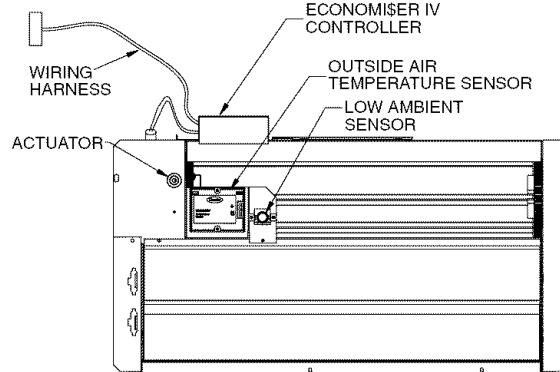
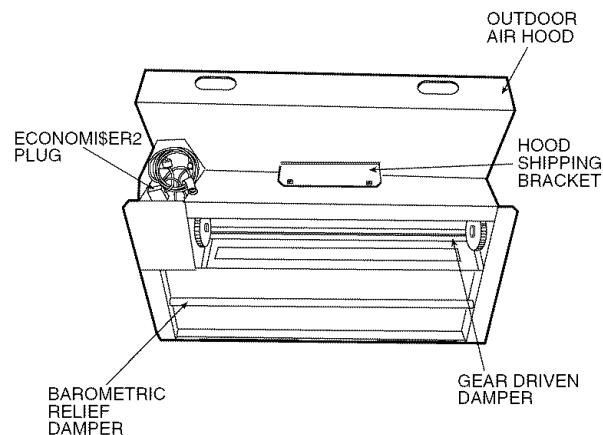
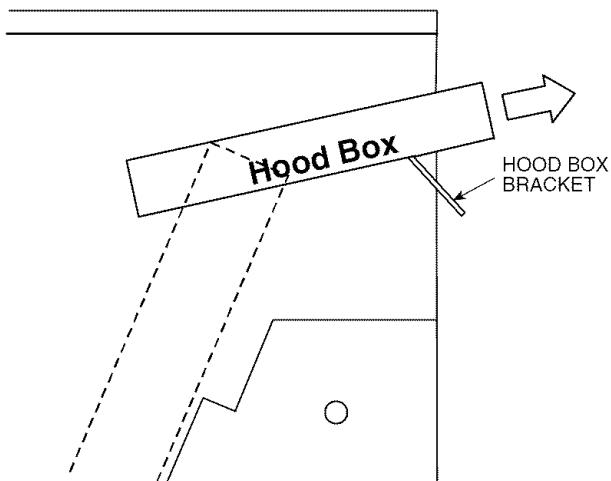
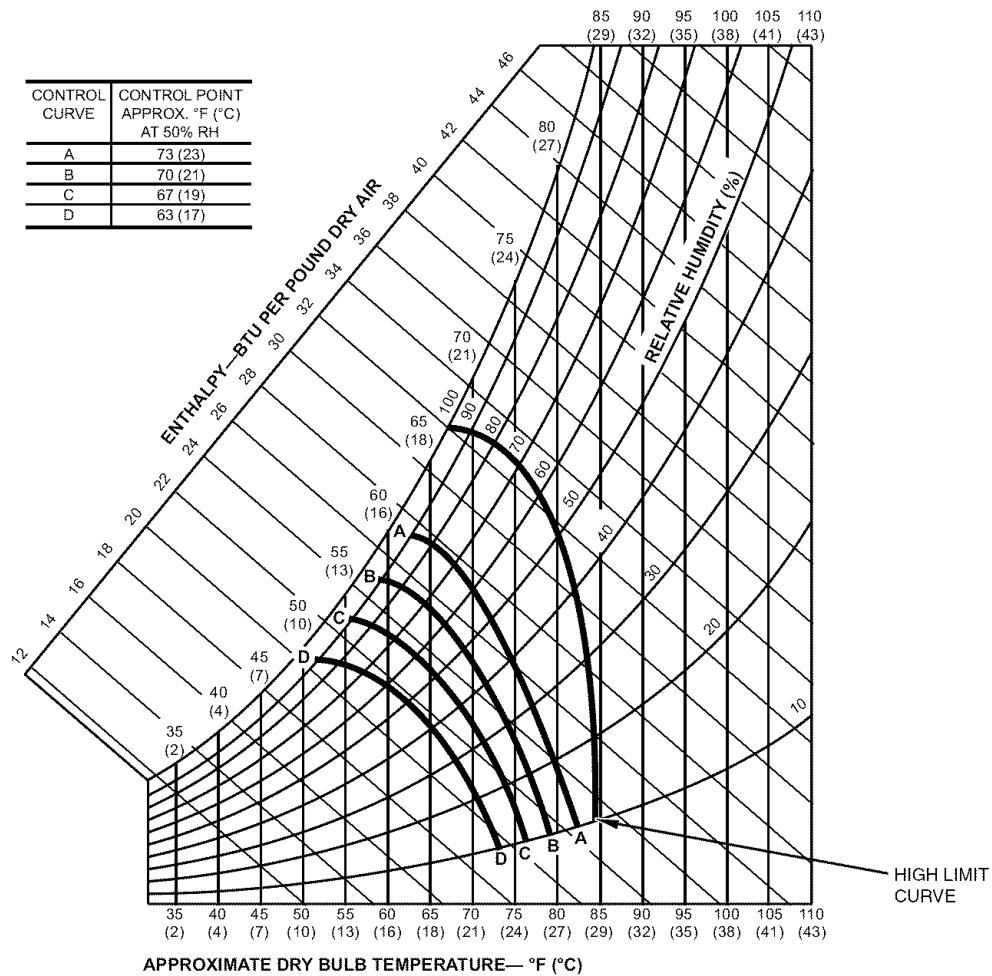

Fig. 20 — EconoMi\$er IV Component Locations
Fig. 21 — EconoMi\$er2 Component Locations
Fig. 23 — Hood Box Removal
Fig. 36 — Enthalpy Changeover Set Points
See Fig. 20 for EconoMi\$er IV component locations. See Fig. 21 for EconoMi\$er2 component locations.
2. The box with the economizer hood components is shipped in the compartment behind the economizer. The EconoMi\$er IV controller is mounted on top of the EconoMi\$er IV in the position shown in Fig. 20. The optional EconoMi\$er2 with 4 to 20 mA actuator signal control does not include the EconoMi\$er IV controller. To remove the component box from its shipping position, remove the screw holding the hood box bracket to the top of the economizer. Slide the hood box out of the unit. See Fig. 23.
Outdoor Air Temperature (OAT) Sensor — The outdoor air temperature sensor (HH57AC074) is a 10 to 20 mA device used to measure the outdoor-air temperature. The outdoor-air temperature is used to determine when the EconoMi\$er IV can be used for free cooling. The sensor is factory-installed on the EconoMi\$er IV in the outdoor airstream. See Fig. 20. The operating range of temperature measurement is 40 to 100 F.
Outdoor Air Lockout Sensor — The EconoMi\$er IV is equipped with an ambient temperature lockout switch located in the outdoor air stream which is used to lockout the compressors below a 42 F ambient temperature. See Fig. 20.
Outdoor Enthalpy Changeover — For enthalpy control, accessory enthalpy sensor (part number HH57AC078) is required. Replace the standard outdoor dry bulb temperature sensor with the accessory enthalpy sensor in the same mounting location. See Fig. 20. When the outdoor air enthalpy rises above the outdoor enthalpy changeover set point, the outdoor-air damper moves to its minimum position. The outdoor enthalpy changeover set point is set with the outdoor enthalpy set point potentiometer on the EconoMi\$er IV controller. The set points are A, B, C, and D. See Fig. 36. The factory-installed 620-ohm jumper must be in place across terminals SR and SR+ on the EconoMi\$er IV controller. See Fig. 20 and 37.